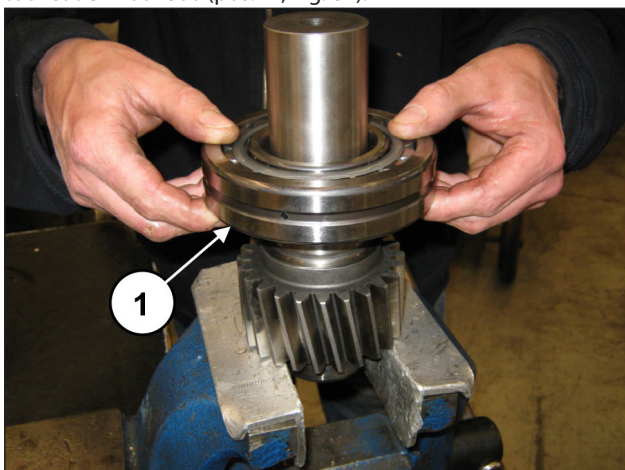
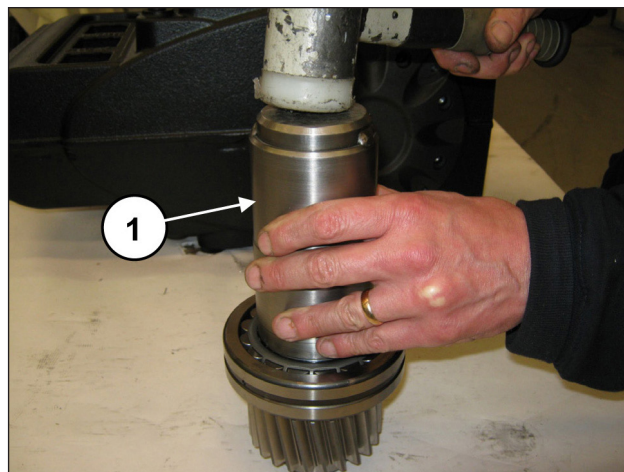

Fig. 81
Fig. 82
From the other side of the pinion, pre-assemble the bearing 55x120x29 (pos. ①, Fig. 81) positioning it to end stroke using tool code 27604800 (pos. ①, Fig. 82).